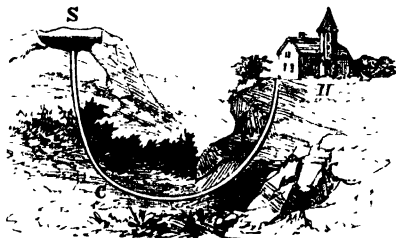

FIG. 6.
This property of liquids often enables a town to be supplied with water from a hill at a distance, though a valley and uneven grounds lie between; for water, when confined in a pipe, will rise to the same height as its source. Fig. 6 shows water conducted by a pipe from a lake (S) on a hill, through a valley, to a house situate on a rising ground. This property of liquids was not unknown to the ancients, for Pliny distinctly says that "water ascends in a pipe to the height of its source."* However, they did not avail themselves of the property, probably from want of the material and means of constructing the necessary apparatus. Their mode of conducting water from one place to another was by open channels called aqueducts, either cut in the level ground, or supported on arches when necessary: such structures cost great labour and expense.